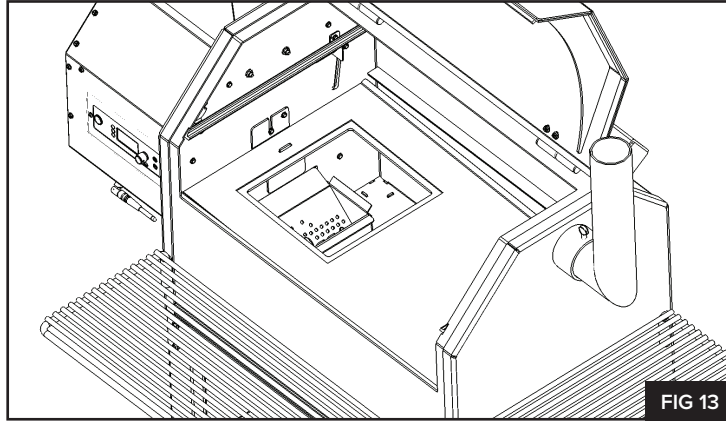

FIG 13
2. Remove the access door from the heat diffuser plate. **(FIG 13)**